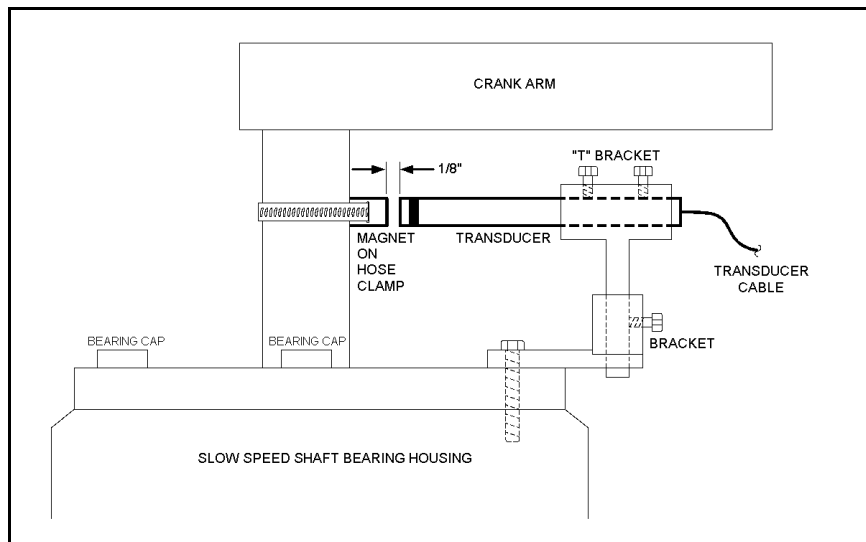

Figure 6-9. Round Magnet Mounted on Low Speed Shaft of Gearbox
- **Round magnet** (see Figure 6-9) — Attach a round magnet (mounted in holder) to the slow speed shaft of the gearbox with a stainless steel hose clamp, similar to the motor transducer assembly. If insufficient space is available to mount the magnet between the crank and the gearbox bearing cap, mount a bar magnet on the crank as described above.